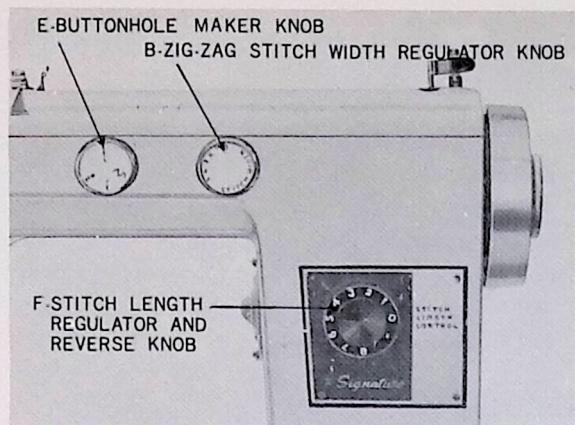
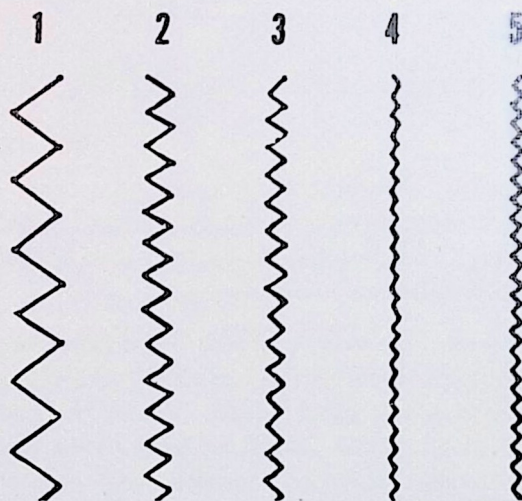
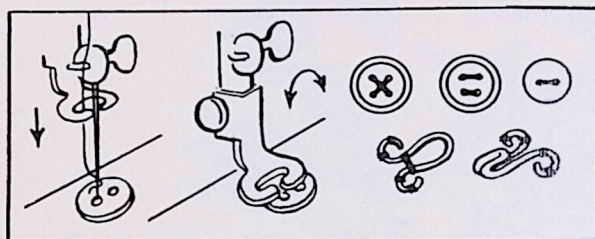

Fig. 17. Zigzag Control Knobs
Fig. 18. Zigzag Stitches
Fig. 28
PRACTICE ZIGZAG STITCH ILLUSTRATED AS No. 1—Fig. 18. This wide zigzag stitch is used on blanket binding, stitching narrow ribbons, decorative borders and rick-rack braid. Adjust the machine as follows:
1. Turn the zigzag stitch width regulator knob, (B) Fig. 17, clockwise as far as it will go—to No. 5.
2. Adjust stitch length regulator (F) for the longest stitch—No. 8.
3. Your machine will now produce the widest zigzag stitch possible, illustrated as (1) in Fig. 18.
PRACTICE ZIGZAG STITCH ILLUSTRATED AS No. 2—Fig. 18. This stitch is used for overcasting seams, appliqueing, applying bias binding, etc. Adjust the machine as follows:
1. Turn zigzag stitch width regulator knob, (B) Fig. 17, to No. 4.
2. Turn stitch length regulator knob (F) to No. 5.
3. Your machine will now produce the stitch illustrated as (2) in Fig. 18.
PRACTICE ZIGZAG STITCH ILLUSTRATED AS No. 3—Fig. 18. This zigzag stitch is used for appliqueing, joining lace, etc. Adjust your machine as follows.
1. Turn zigzag stitch width regulator knob, (B) Fig. 17, to No. 2.
2. Turn stitch length regulator knob (F) to No. 4.
3. Your machine will now produce the zigzag stitch illustrated as No. 3 in Fig. 18.
PRACTICE ZIGZAG STITCH ILLUSTRATED AS No. 4—Fig. 18. This is a very narrow stitch which may be used for stitching arm hole seams or wherever an extra strong seam is desired. Adjust the machine as follows:
1. Turn zigzag stitch width regulator knob, (B) Fig. 17, to No. $\frac{1}{2}$.
2. Turn stitch length regulator knob (F) to No. 2.
3. The machine will now produce the zigzag stitch illustrated as No. 4 in Fig. 18.
PRACTICE ZIGZAG STITCH ILLUSTRATED AS No. 5—Fig. 18. This is a very tiny stitch used for fine rolled hems, dainty lace, appliqueing, top stitching bias seams, decorating baby clothes, etc. Adjust the machine as follows:
1. Turn zigzag stitch width regulator knob, (B) Fig. 17, to No. 1.
3. The machine will now produce the zigzag stitch illustrated as No. 5 in Fig. 18.
Before embroidering any of the following stitch patterns, set the stitch width regulator knob (B) Fig. 17, at No. 5.
1. Turn zigzag stitch width regulator knob, (B) Fig. 17, to produce the width of zigzag stitch desired.
2. Turn zigzag stitch width regulator knob, (B) Fig. 17, to No. 1 or No. 1½ to produce a narrow zigzag stitch.
3. Set stitch length regulator (F) at No. 4 or No. 5. Stitches should not be too close.
2. Turn zigzag stitch width regulator knob, (B) Fig. 17, to No. 0.
3. Set stitch length regulator knob (F) Fig. 17, at No. 4.
Proceed as outlined above, except that in step 2 above, turn zigzag stitch width regulator knob, (B) Fig. 17, to No. 2.
3. Set stitch length regulator knob (F) at No. 4.
2. Set stitch length regulator knob (F) at No. 2.
3. Place the patch over the hole and sew the patch on to the garment. This stitch is almost like a regular machine stitch but is strong, and it resists ripping. Now trim off the projecting edges of material. Turn the zigzag stitch regulator knob (B) to No. 2, while leaving the stitch length regulator knob at No. 2 and sew a zigzag seam over the wavy zigzag stitch.
1. Turn zigzag stitch width regulator knob. (B) Fig. 17, to No. $\frac{1}{2}$.